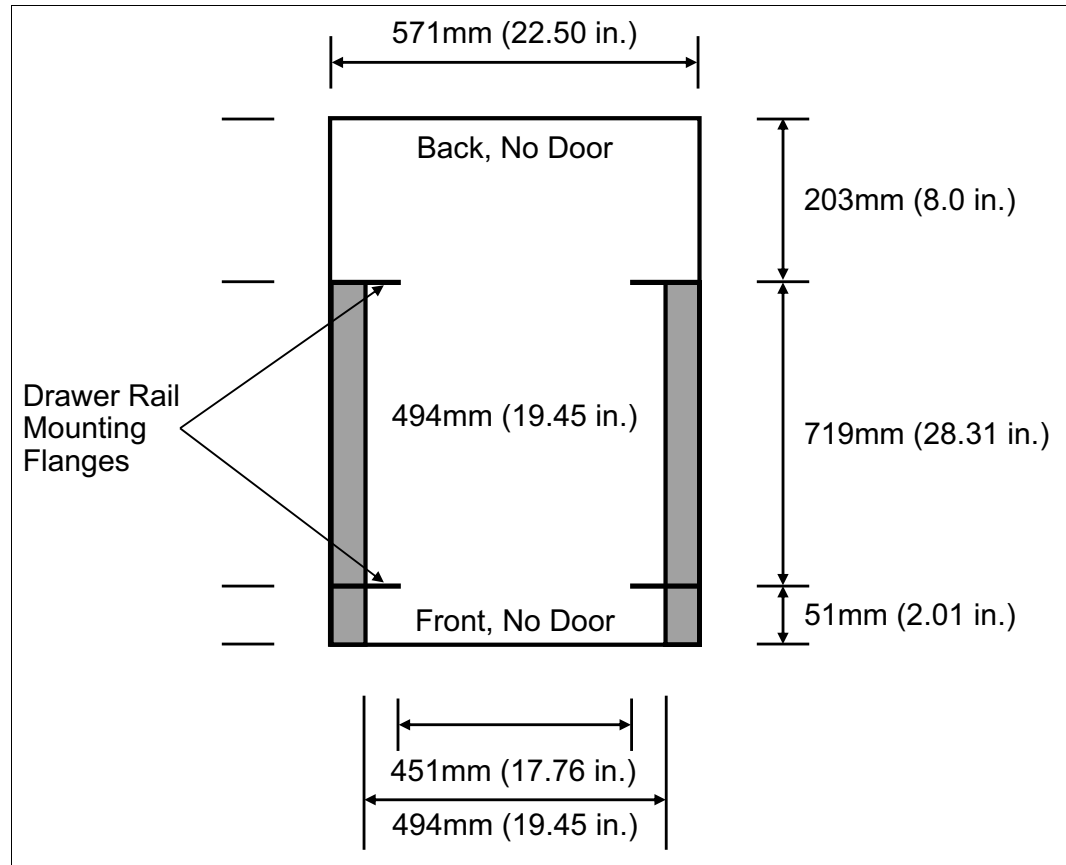

Figure 1-10 Top view of rack specification dimensions (not specific to IBM)
- The front rack opening must be 451 mm wide \pm 0.75 mm (17.75 in. \pm 0.03 in.), and the rail-mounting holes must be 465 mm \pm 0.8 mm (18.3 in. \pm 0.03 in.) apart on-center (horizontal width between the vertical columns of holes on the two front-mounting flanges and on the two rear-mounting flanges). Figure 1-10 is a top view showing the specification dimensions.